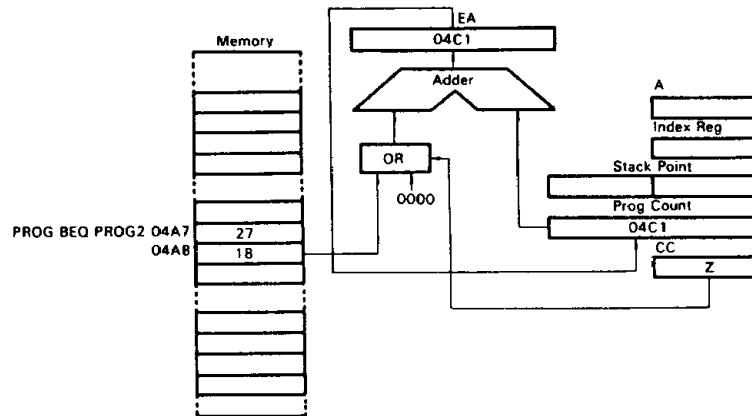

Figure 32 Example of Relative Addressing
See Fig. 32. Relative addressing is only used in branch instructions. When a branch occurs, the program counter is loaded with the contents of the byte following the opcode, $EA = (PC) + 2 + Rel$, where Rel. indicates the 8 bit signed data in the location following the instruction opcode. If no branch occurs, Rel.=0. When a branch takes place, the program jumps to any byte within the range +129 ~ -127 of the present instruction. These branch instructions are two bytes long.